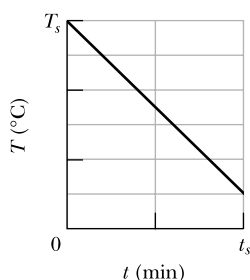

Figure 18.29 Problem 71.
**71** A  $0.300\text{ kg}$  sample is placed in a cooling apparatus that removes energy as heat at a constant rate of  $2.81\text{ W}$ . Figure 18.29 gives the temperature  $T$  of the sample versus time  $t$ . The